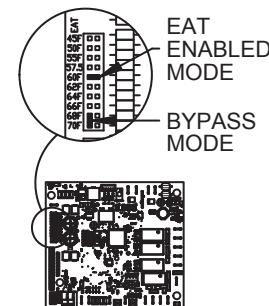

Figure 1
a. **For EDSM and EDSM/TP control systems**, if the ambient temperature is at or above the Entering Air Thermostat (EAT) setpoint, note the setpoint position. Pull the jumper off the tem-perature setpoint (Normal Mode) and reinstall it sideways on the terminal block (Bypass Mode) as shown in Figure 1. Refer to the Individual Component Description section for additional information.